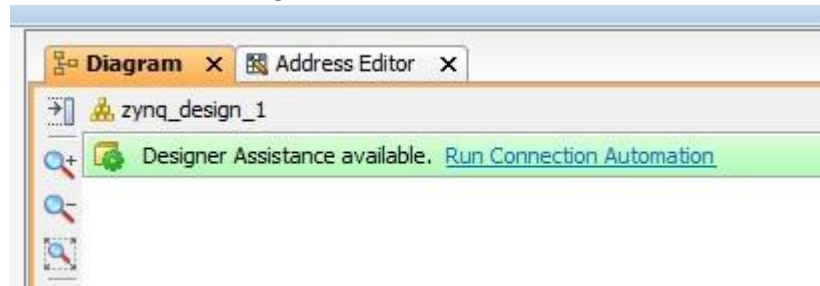

Figure 13: Connected AXI BRAM Controller and Block Memory Generator.
1. In the IP Integrator workspace header, Click **Run Connection Automation** (Figure 13) to open the Run Connection Automation dialog box.